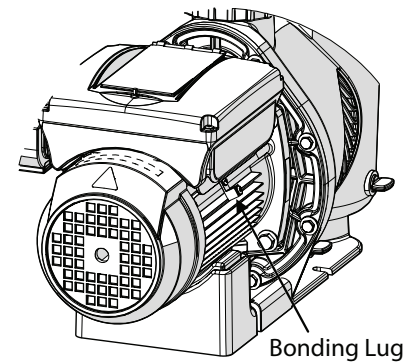

FIGURE 4
1. Bond the motor to the pool structure using a solid copper conductor and the Bonding Lug on the side of the motor, as shown in Figure 4, in accordance with the National Electrical Code.